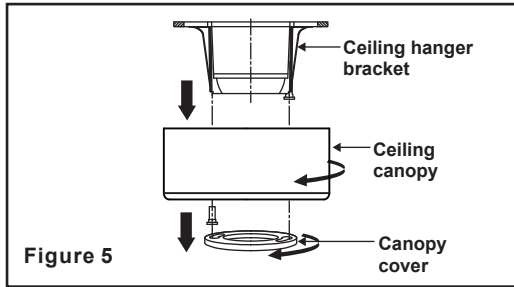

Figure 5
Step 1. Remove the decorative canopy bottom cover from the canopy by turning the cover counter clockwise.(Fig. 5)
Step 2. Remove the mounting bracket from the canopy by removing 1 of 2 screws from the bottom of the mounting bracket and loosening the other one a half turn from the screw head. Next, turn the canopy counter clockwise to remove the mounting bracket from the canopy. (Fig. 5)